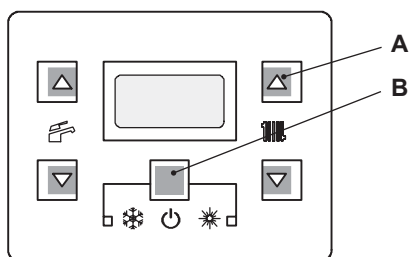

Figure 6.8
- 4 To modify the parameter press contemporary the keys ("A - B" Figure 6.8).